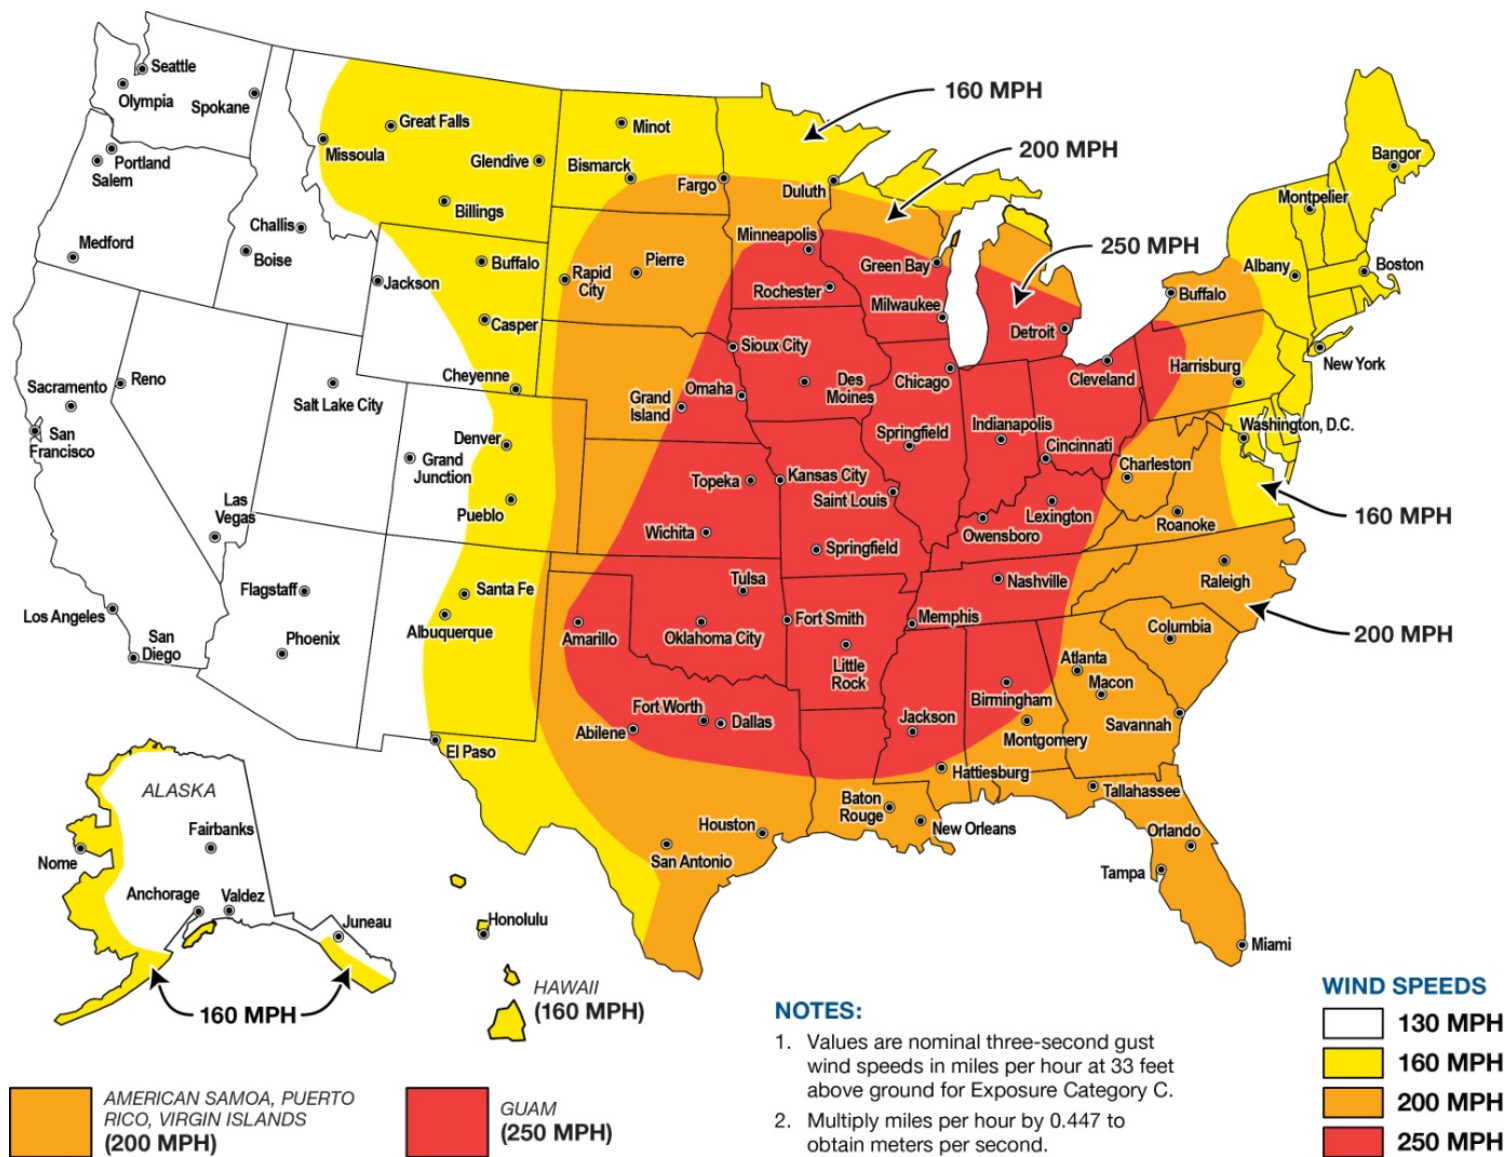
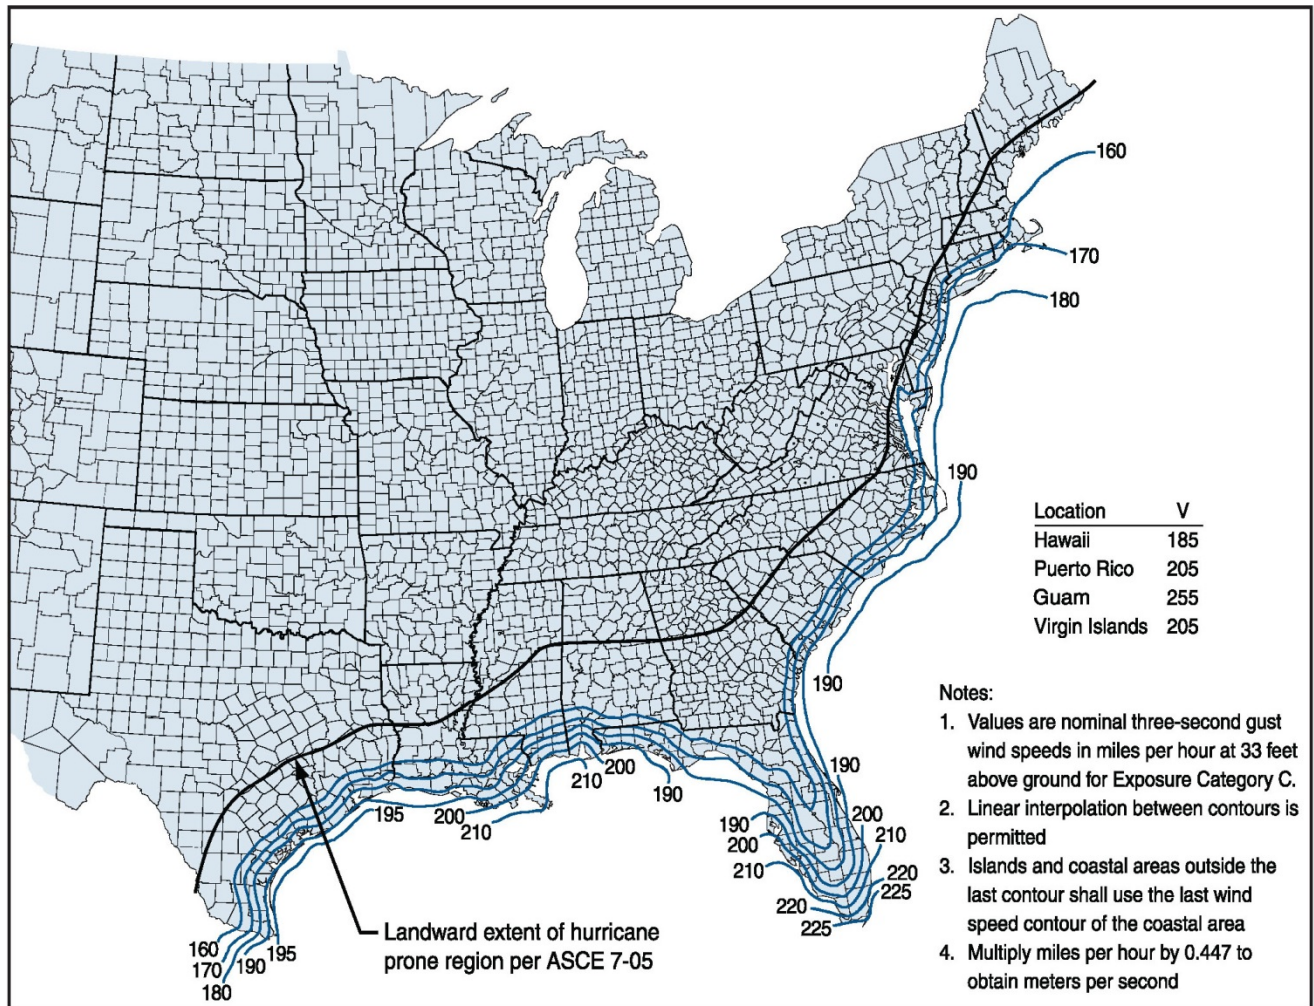

Figure 1: Wind Zones Map
Figure 2: Hurricane Safe Room Design Wind Speed Map from the ICC-500
<p>For tornado and combined hazard safe rooms, identify what wind zone region the building is located in based on the Wind Zones Map provided in Figure 1.</p> <p><input type="checkbox"/> Zone I [130 mph] (4)      <input type="checkbox"/> Zone II [160 mph] (6)</p> <p><input type="checkbox"/> Zone III [200 mph] (8)      <input type="checkbox"/> Zone IV [250 mph] (10) Or</p> <p>For hurricane hazard safe rooms, identify the wind speed contour for the site (if the site is between contour lines, select the highest wind speed contour) provided in Figure 2.</p> <p><input type="checkbox"/> 160-170 (6)</p> <p><input type="checkbox"/> 180-190 (7)</p> <p><input type="checkbox"/> 200-225 (8)</p> <p><input type="checkbox"/> 225 + (10)</p>